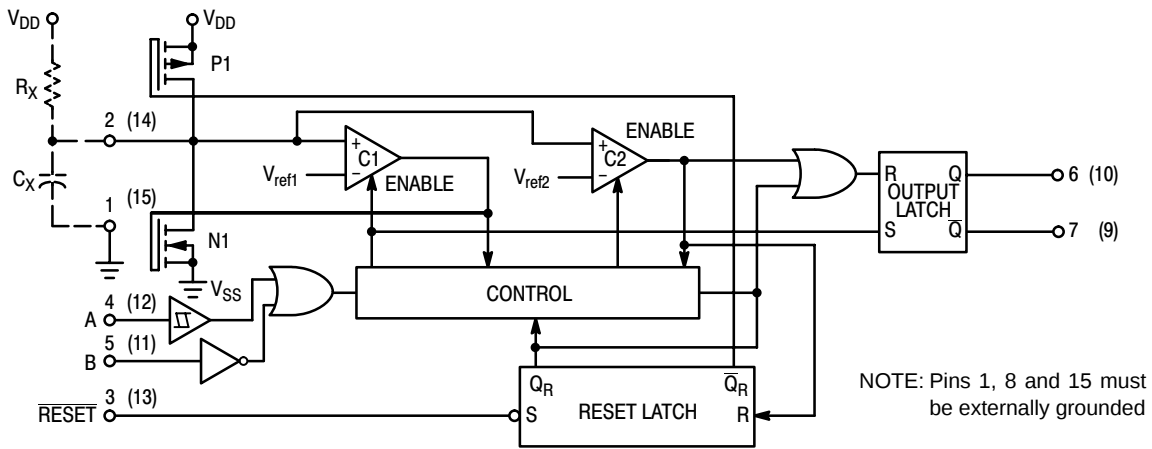

Figure 1. Logic Diagram
The block diagram of the MC14538B is shown in Figure 1, with circuit operation following.
As shown in Figure 1 and 10, before an input trigger occurs, the monostable is in the quiescent state with the Q output low, and the timing capacitor C_X completely charged to V_{DD} . When the trigger input A goes from V_{SS} to V_{DD} (while inputs B and $\overline{\text{Reset}}$ are held to V_{DD}) a valid trigger is recognized, which turns on comparator C1 and N-channel transistor N1 ①. At the same time the output latch is set. With transistor N1 on, the capacitor C_X rapidly discharges toward V_{SS} until $V_{\text{ref}1}$ is reached. At this point the output of comparator C1 changes state and transistor N1 turns off. Comparator C1 then turns off while at the same time comparator C2 turns on. With transistor N1 off, the capacitor C_X begins to charge through the timing resistor, R_X , toward V_{DD} . When the voltage across C_X equals $V_{\text{ref}2}$, comparator C2 changes state, causing the output latch to reset (Q goes low) while at the same time disabling comparator C2 ②. This ends at the timing cycle with the monostable in the quiescent state, waiting for the next trigger.